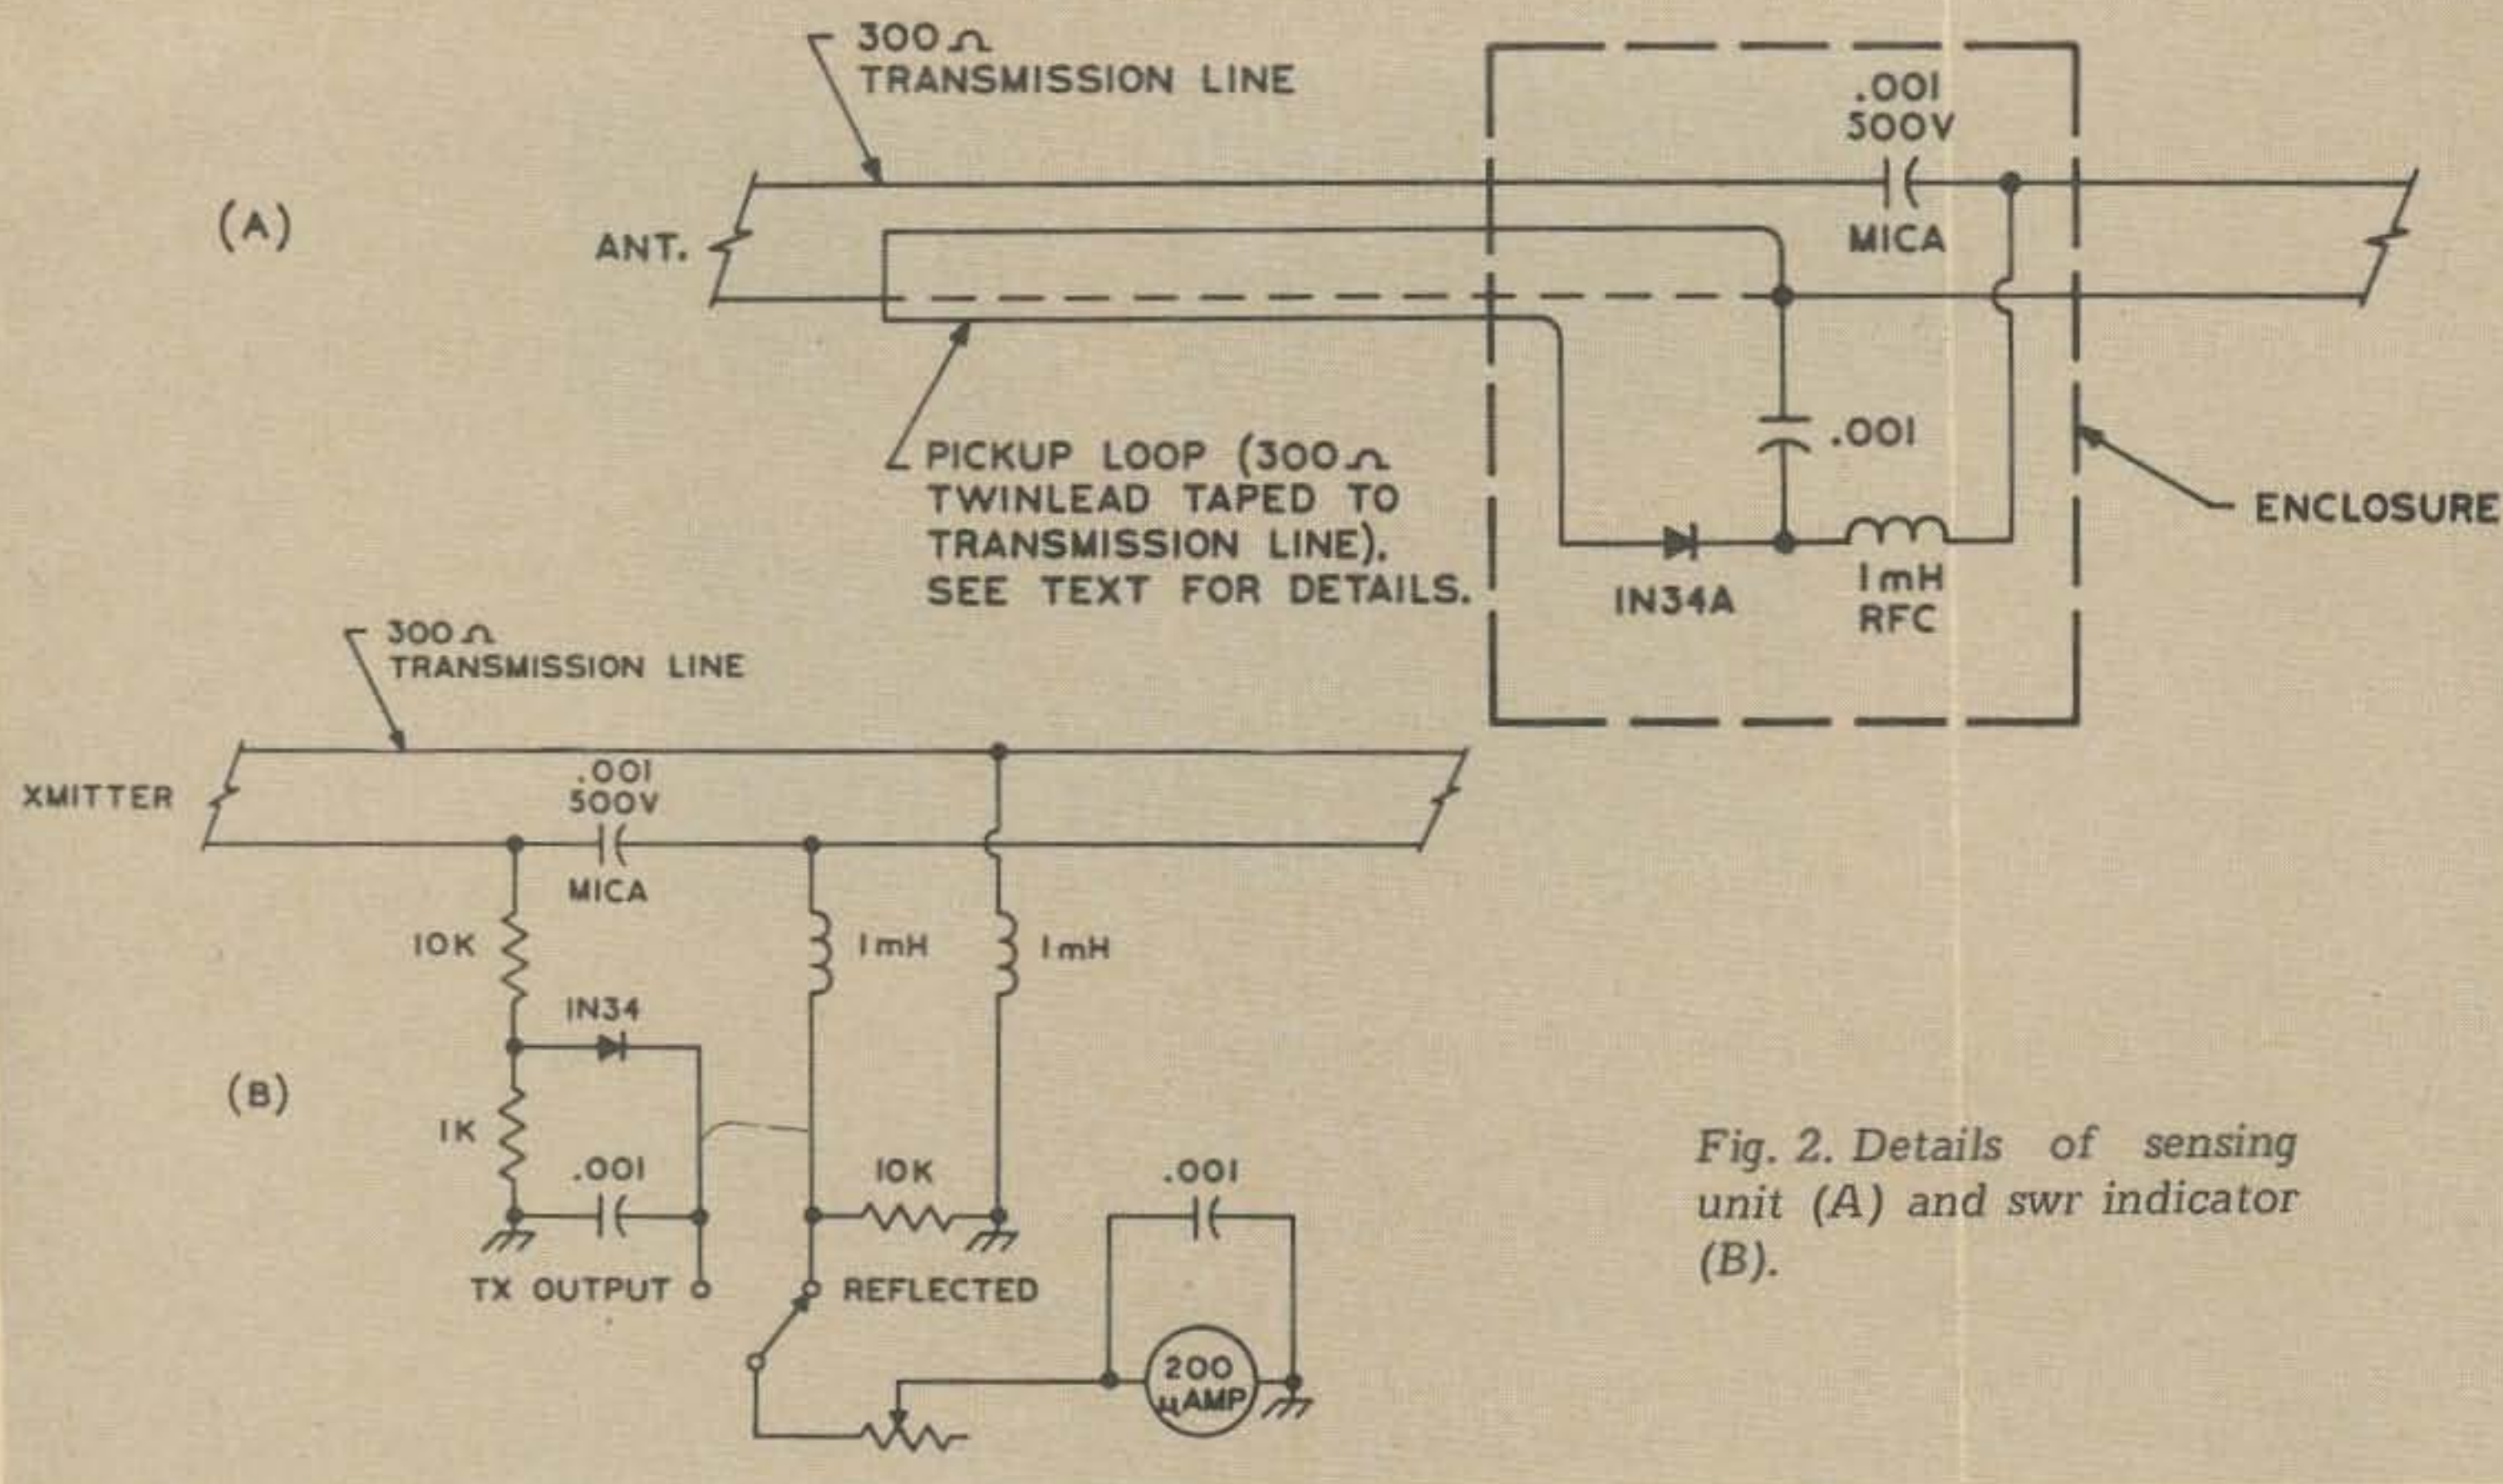

Fig. 2. Details of sensing unit (A) and swr indicator (B).
modified form of the old twin-lamp swr indicator for twinlead transmission line but arranged to only respond to reflected power pickup. The indicator unit functions as a combination rf voltmeter to indicate the relative power output of the transmitter and as an indicating dc voltmeter for the reading of a dc voltage generated by the sensing unit which is proportional to the swr. The connection between the two units is via the same transmission line between the transmitter and antenna. The same line can be used simultaneously for both purposes since the rf power flow and the dc voltage generated by the sensing unit can flow on the same line but then be separated by appropriate capacitor and rf choke combinations. This feature is indicated more clearly in Fig.2(A) and 2(B) which show the details of the sensing and indicator units.
The use of the swr indicator was mainly checked on 40 and 20 meters. The length of twinlead used as the pickup loop was taped to the transmission line. The components shown in Fig.2(A) were compactly assembled in a plastic snap-open box measuring about 2 x 1 x 1 in., which was acquired as the result of some now unknown purchase. However, almost any similar lightweight enclosure would suffice. Particularly when dealing with coaxial transmission lines, it would be advisable to also use a shielded enclosure instead of a plastic unit in order to preserve the continuity of the outer shield. With some care in construction, it would seem to be perfectly feasible to use the smallest minibox available for this purpose (Bud CU3000A).